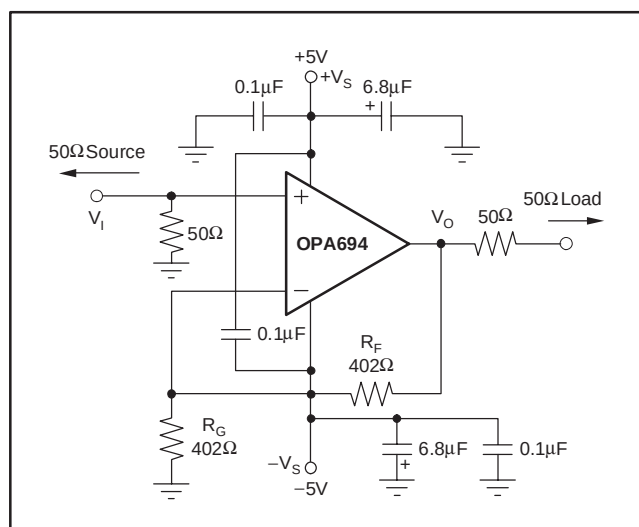
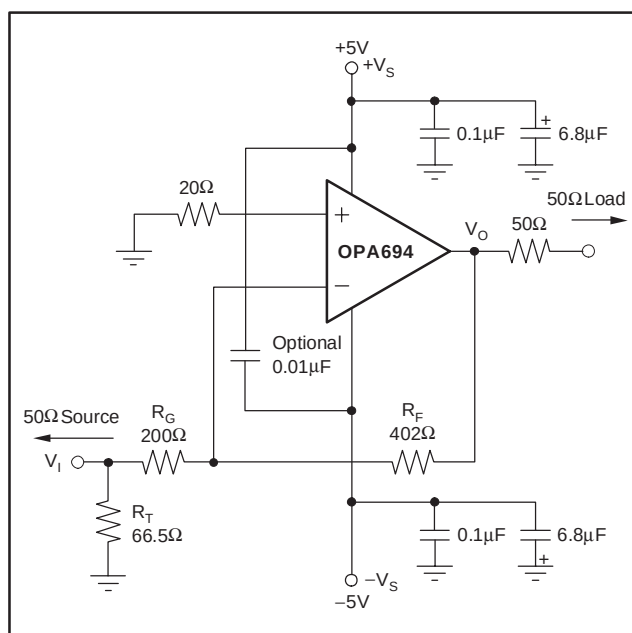
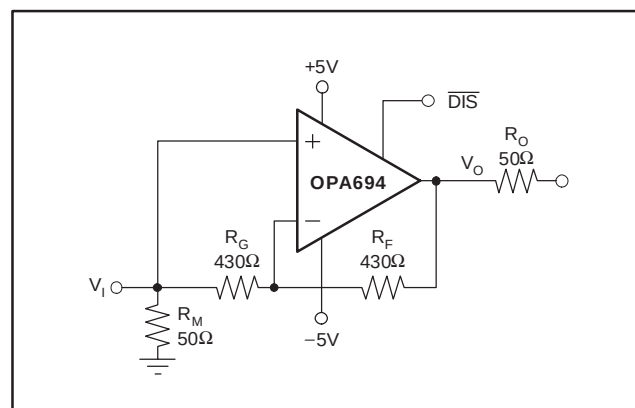
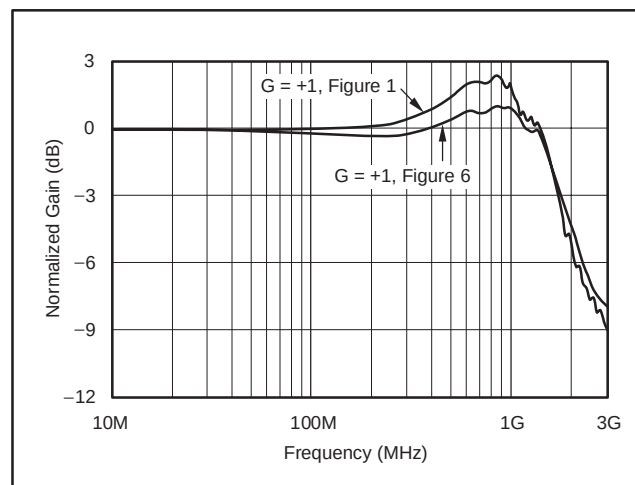

Figure 1. DC-Coupled, G = +2, Bipolar-Supply Specification and Test Circuit
Figure 2. DC-Coupled, G = -2 V/V, Bipolar-Supply Specification and Test Circuit
Figure 6. IF Amplifier Driving SAW Filter
Figure 7. IF Amplifier Driving SAW Filter
Figure 1 shows the DC-coupled, gain of +2, dual power-supply circuit configuration used as the basis of the ± 5 V Electrical Characteristic tables and Typical Characteristic curves. For test purposes, the input impedance is set to 50 Ω with a resistor to ground and the output impedance is set to 50 Ω with a series output resistor. Voltage swings reported in the Electrical Characteristics are taken directly at the input and output pins, while load powers (dBm) are defined at a matched 50 Ω load. For the circuit of Figure 1, the total effective load will be 100 Ω || 804 Ω = 89 Ω . One optional component is included in Figure 1. In addition to the usual power-supply decoupling capacitors to ground, a 0.1 μ F capacitor is included between the two power-supply pins. In practical PC board layouts, this optional added capacitor will typically improve the 2nd-harmonic distortion performance by 3dB to 6dB.
Figure 2 shows the DC-coupled, gain of -2 V/V, dual power-supply circuit used as the basis of the inverting Typical Characteristic curves. Inverting operation offers several performance benefits. Since there is no common-mode signal across the input stage, the slew rate for inverting operation is higher and the distortion performance is slightly improved. An additional input resistor, R_T , is included in Figure 2 to set the input impedance equal to 50 Ω . The parallel combination of R_T and R_G sets the input impedance. Both the noninverting and inverting applications of Figure 1 and Figure 2 will benefit from optimizing the feedback resistor (R_F) value for bandwidth (see the discussion in *Setting Resistor Values to Optimize Bandwidth*). The typical design sequence is to select the R_F value for best bandwidth, set R_G for the gain, then set R_T for the desired input impedance. As the gain increases for the inverting configuration, a point will be reached where R_G will equal 50 Ω , where R_T is removed and the input match is set by R_G only. With R_G fixed to achieve an input match to 50 Ω , R_F is simply increased, to increase gain. This will, however, quickly reduce the achievable bandwidth, as shown by the inverting gain of -10 frequency response in the Typical Characteristic curves. For gains > 10V/V (14dB at the matched load), noninverting operation is recommended to maintain broader bandwidth.
The unity gain buffer configuration of Figure 1 shows a peaking in the frequency response exceeding 2dB. This gives the slight amount of overshoot and ringing apparent in the gain of $+1V/V$ pulse response curves. A similar circuit that holds a flatter frequency response, giving improved pulse fidelity, is shown in Figure 6.
This circuit removes the peaking by bootstrapping out any parasitic effects on R_G . The input impedance is still set by R_M as the apparent impedance looking into R_G is very high. R_M may be increased to show a higher input impedance, but larger values will start to impact DC output offset voltage. This circuit creates an additional input offset voltage as the difference in the two input bias currents times the impedance to ground at V_i . Figure 7 shows a comparison of small-signal frequency response for the unity gain buffer of Figure 1 compared to the improved approach shown in Figure 6. Either approach gives a low-power unity-gain buffer with $> 1.56\text{GHz}$ bandwidth.
The OPA694 provides good distortion performance into a 100Ω load on $\pm 5\text{V}$ supplies. Generally, until the fundamental signal reaches very high frequency or power levels, the 2nd-harmonic will dominate the distortion with a negligible 3rd-harmonic component. Focusing then on the 2nd-harmonic, increasing the load impedance improves distortion directly. Remember that the total load includes the feedback network—in the noninverting configuration (see Figure 1), this is the sum of $R_F + R_G$, while in the inverting configuration it is just R_F . Also, providing an additional supply decoupling capacitor ($0.1\mu\text{F}$) between the supply pins (for bipolar operation) improves the 2nd-order distortion slightly (3dB to 6dB).
Evaluating these two equations for the OPA694 circuit and component values (see Figure 1) gives a total output spot noise voltage of $11.2\text{nV}/\sqrt{\text{Hz}}$ and a total equivalent input spot noise voltage of $5.6\text{nV}/\sqrt{\text{Hz}}$. This total input-referred spot noise voltage is higher than the $2.1\text{nV}/\sqrt{\text{Hz}}$ specification for the op amp voltage noise alone. This reflects the noise added to the output by the inverting current noise times the feedback resistor. If the feedback resistor is reduced in high-gain configurations (as suggested previously), the total input-referred voltage noise given by Equation (5) will approach just the $2.1\text{nV}/\sqrt{\text{Hz}}$ of the op amp itself. For example, going to a gain of +10 using $R_F = 178\Omega$ will give a total input-referred noise of $2.36\text{nV}/\sqrt{\text{Hz}}$.
A current-feedback op amp like the OPA694 provides exceptional bandwidth in high gains, giving fast pulse settling, but only moderate DC accuracy. The Electrical Characteristics show an input offset voltage comparable to high-speed, voltage-feedback amplifiers. However, the two input bias currents are somewhat higher and are unmatched. Whereas bias current cancellation techniques are very effective with most voltage-feedback op amps, they do not generally reduce the output DC offset for wideband, current-feedback op amps. Since the two input bias currents are unrelated in both magnitude and polarity, matching the source impedance looking out of each input to reduce their error contribution to the output is ineffective. Evaluating the configuration of Figure 1, using worst-case $+25^\circ\text{C}$ input offset voltage and the two input bias currents, gives a worst-case output offset range equal to:
As a worst-case example, compute the maximum T_J using an OPA694IDBV (SOT23-5 package) in the circuit of Figure 1 operating at the maximum specified ambient temperature of +85°C and driving a grounded 20Ω load to +2.5V DC: